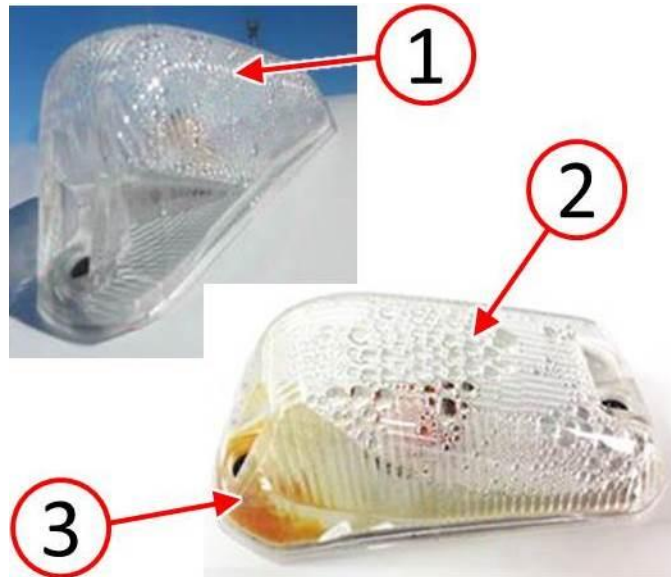

Fig. 2 Moisture Condition Examples
4. As shown in (Fig. 2), note the observed moisture level in any of the front cab clearance lamps; (1) a light foggy mist with no large water droplets, (2) large water droplets, (3) water accumulation and/or discoloration. Also inspect if any of the lamps fail to illuminate when lamps are turned on.
- a. If all five roof clearance lamps illuminate when turned on and none of the lamps have more than a light foggy mist with no large water droplets (1) as shown in (Fig. 2). Proceed to **REPAIR PROCEDURE - H2 HIGH ROOF - LAMP LENS ONLY REPLACEMENT: Step #1.**
- b. If any of the five roof clearance lamps fail to illuminate, and/or contain large water droplets (2) and/or water accumulation and/or discoloration (3) as shown in (Fig. 2). Proceed to **REPAIR PROCEDURE - H2 HIGH ROOF - LAMP LENS AND HARNESS REPLACEMENT: Step #1.**